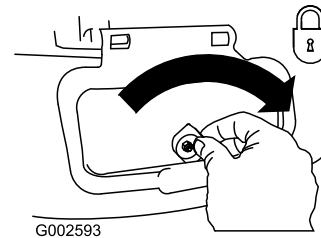

Figure 36
**Important:** Lock the side-discharge door after you close it (Figure 36).